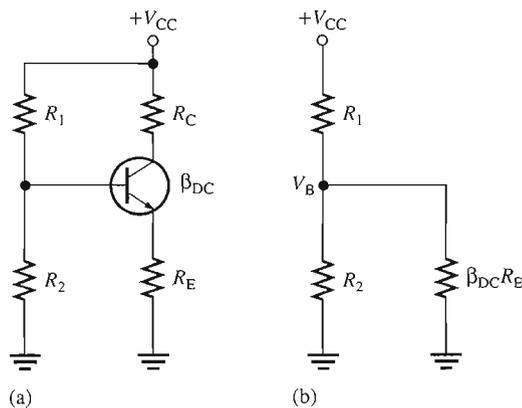

FIGURE 5–13
A voltage-divider biased *npn* transistor is shown in Figure 5–13(a). Let's begin the analysis by determining the voltage at the base using the voltage-divider formula, which is developed as follows:
A voltage-divider is formed by  $R_1$  and the resistance from base to ground ( $\beta_{DC} R_E$ ) in parallel with  $R_2$  as shown in Figure 5–13(b). Applying the voltage-divider formula yields
As you know, a *pn*p transistor requires bias polarities opposite to the *npn*. This can be accomplished with a negative collector supply voltage, as in Figure 5–16(a), or with a positive emitter supply voltage, as in Figure 5–16(b). In a schematic, the *pn*p is often drawn upside down so that the supply voltage line can be drawn across the top of the schematic and ground at the bottom, as in Figure 5–17. The analysis procedure is basically the same as for an *npn* transistor circuit, as demonstrated in the following steps with reference to Figure 5–17. The base voltage is determined by using the voltage-divider formula.
**Related Problem** Determine  $I_C$  and  $V_{EC}$  in Figure 5–18 with  $R_{IN(\text{base})}$  taken into account.
Find  $I_C$  and  $V_{CE}$  for a *pn*p transistor circuit with these values:  $R_1 = 68 \text{ k}\Omega$ ,  $R_2 = 47 \text{ k}\Omega$ ,  $R_C = 1.8 \text{ k}\Omega$ ,  $R_E = 2.2 \text{ k}\Omega$ ,  $V_{CC} = -6 \text{ V}$ , and  $\beta_{DC} = 75$ . Refer to Figure 5–16(a), which shows the schematic with a negative supply voltage.